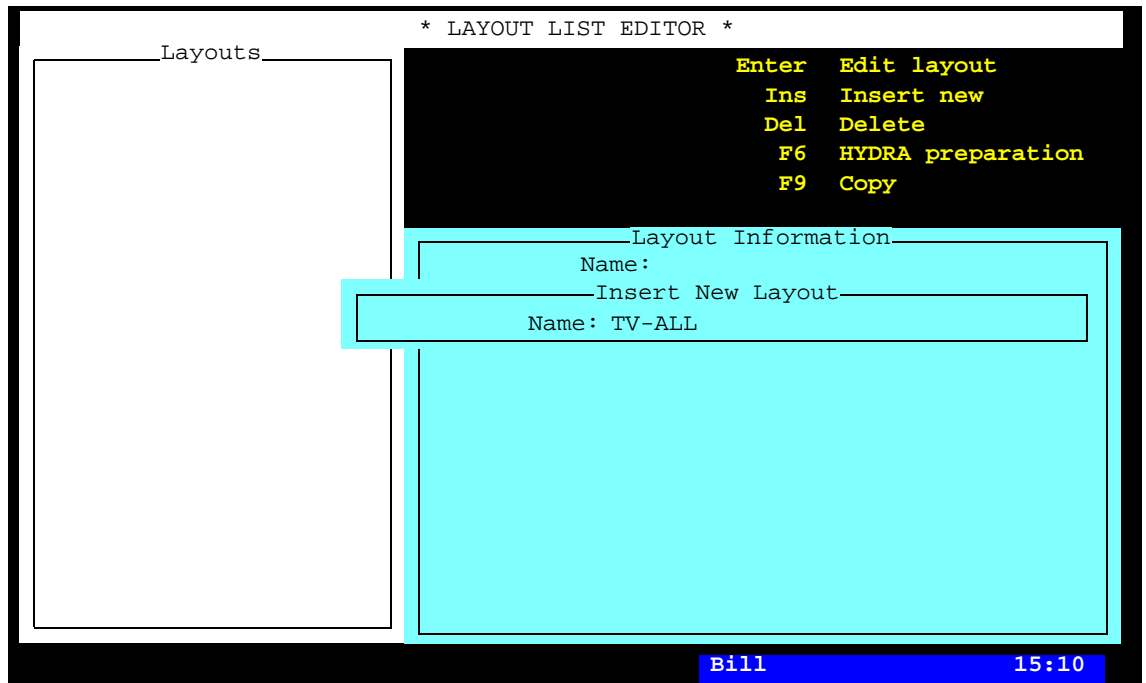

Figure 2-45. Entering a new layout
3. Enter the layout name, TV-ALL as shown in Figure 2-45.